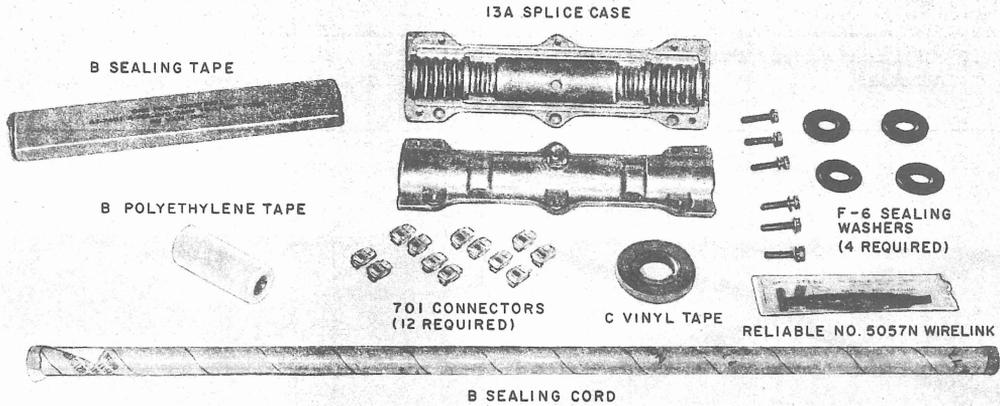

Fig. 20—Material Required for Splicing Multiple Pair ASW
7.01 Multiple ∇ pair ASW ∇ may be spliced before placing, using the material listed in Table B and shown in Fig. 20.